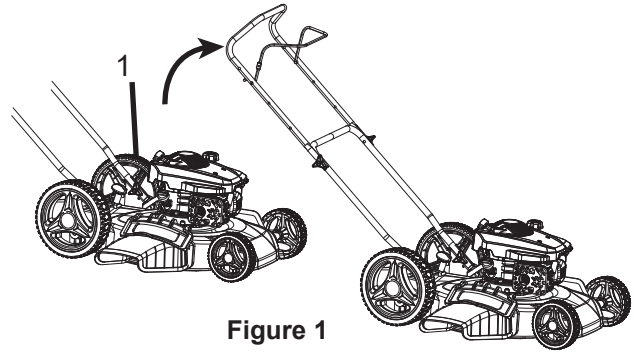

Figure 1
1. Handle knob (2)
3. Install and tighten the handle knobs that you removed in step 1. (Figure 1)